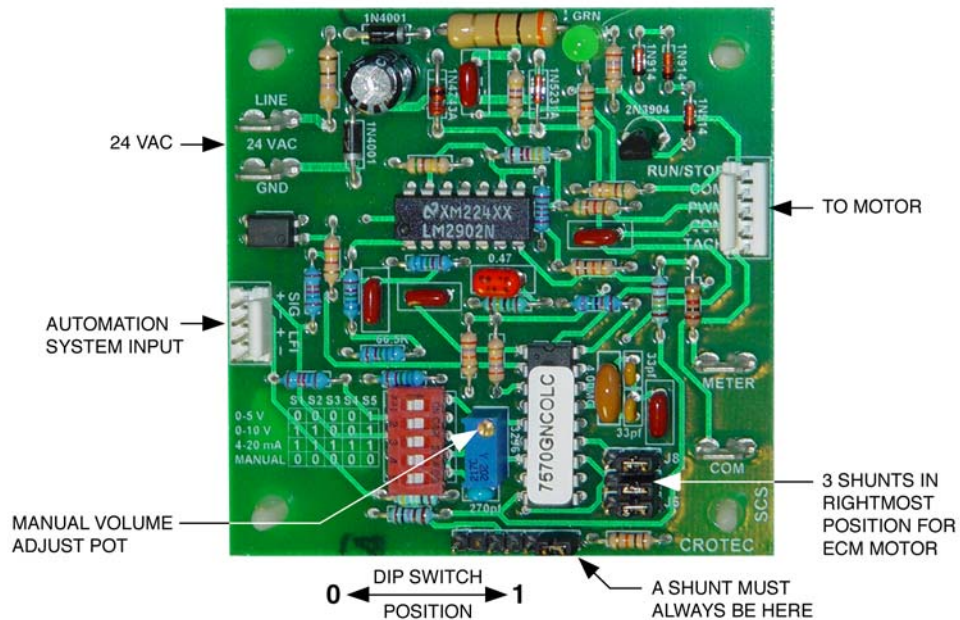

Figure 1. EPIC™ Volume Controller Card.
BEFORE PROCEEDING WITH ANY ADDITIONAL TROUBLESHOOTING, ENSURE THAT THE POLARITY OF THE 24 VAC SUPPLY TO THE CONTROLLER IS CORRECT (SEE FIGURE 1). IF THE POLARITY IS NOT CORRECT, REMOVE THE CONNECTORS AND RECONNECT OBSERVING PROPER POLARITY. RECHECK THE SYSTEM FOR PROPER OPERATION.
1. If not already in the MANUAL mode, set the Controller to the MANUAL mode by setting all dipswitches to 0. (0 is the switch position to the left; i.e., toward the edge of the printed circuit board (See figure 1).
3. Refer to the Fan Calibration Table and using the multi-turn potentiometer (labeled "POT" in figure 1), adjust the potentiometer to set the voltage that corresponds to the desired airflow. The voltage will vary with the potentiometer from 0 to 10VDC representing 0 to 100% of the blower's output per the table.
1. Refer to figure 1 and set the dipswitches as follows:
2. Connect the Automation System input signal to the two pins labeled SIG (see figure 1). Verify the correct polarity per the + and - marks on the board.
1. POWER CONNECTION — Confirm 24VAC (18VAC minimum, 30VAC maximum) is present on the two quick-connect terminals on the upper left of the board (see figure 1).
2. JUMPERS ("SHUNTS") — Confirm that the small black jumpers are on the pins and in the correct positions on the control's jumper headers: There should always be a jumper on the rightmost two pins of the header at the bottom of the board as shown in figure 1. If it is removed or is missing the control will not function. For operation with the **GE-ECM™**, the shunts labeled J6, J7, and J8 must be positioned to the right as shown in figure 1.